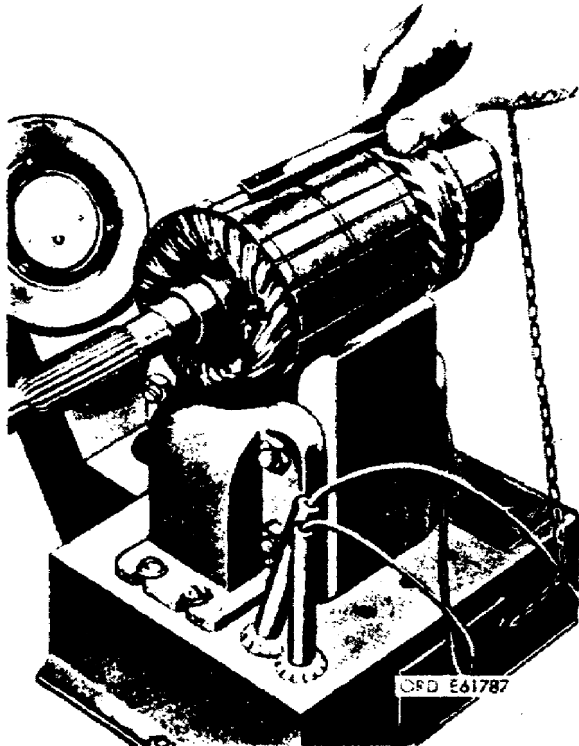
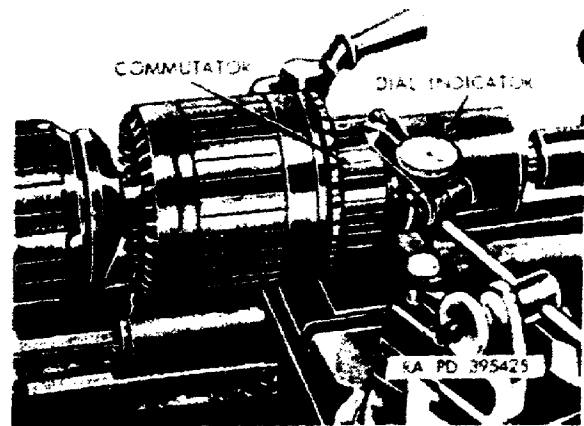

Figure 20. Short circuit check.
Figure 21. Concentricity check.
(2) Figure 20 shows the growler being used to check the armature for shorts. It is done by holding a strip of steel, such as a hacksaw blade, about 1/32 inch away from the armature. While holding the steel strip in position, the armature is rotated slowly. A short circuit will pull the steel strip tightly against the armature core and cause it to vibrate.
(3) The commutator surface is inspected for an even, highly burnished, dark-copper color. If the contact surface is rough, pitted, scored, burned, or coated with hard carbon or oil, it must be resurfaced.
(4) Figure 21 shows the checking of the armature concentricity. This is done by using a lathe or a set of V-blocks and a dial indicator. As the armature is turned, the dial indicator will show deviation of the armature concentricity or the amount of roundness. If the indicated value does not conform to the repair standards, the commutator must be resurfaced.